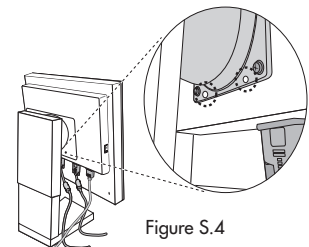

Figure S.4
**NOTE:** When the LCD is in Landscape mode, be sure the two round indents are at the bottom of the screen (Figure S.4).